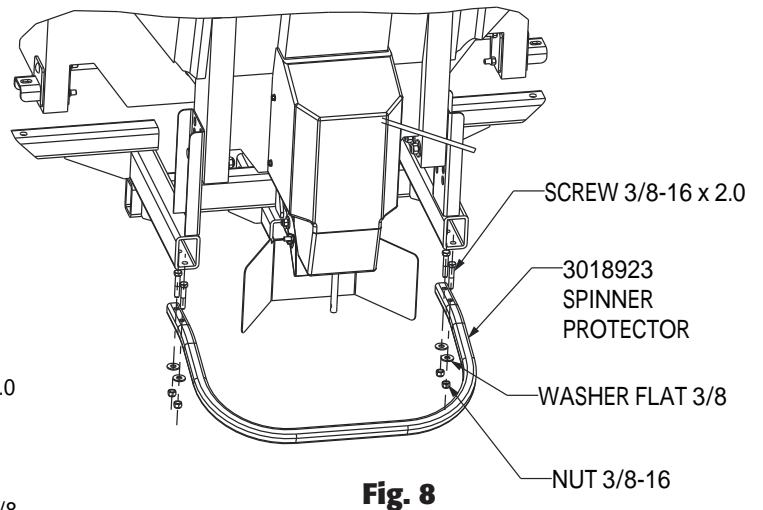

**Fig. 6**
6. Tighten nuts located under frame evenly on both sides of the spreader (10-15 ft-lb's. torque). Then tighten bolts in frame uprights. Finally tighten nuts located between hopper side brackets and frame. They must look as shown in Fig.6. After this procedure spreader should be securely attached to trucks bumper and frame.